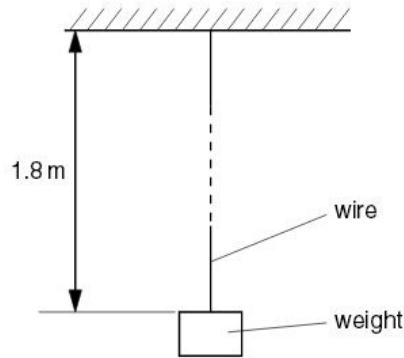

Fig. 9.1
- 9 An aluminium wire of length 1.8 m and area of cross-section $1.7 \times 10^{-6} \text{m}^2$ has one end fixed to a rigid support. A small weight hangs from the free end, as illustrated in Fig. 9.1.